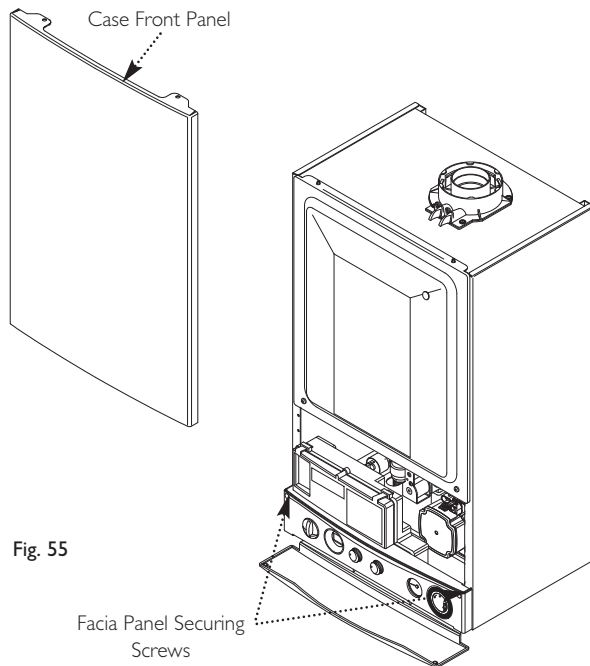

Fig. 55
3. Slacken the screws securing the fascia panel. Lift the outercase panel so that its securing tabs are clear of the fascia. Remove the panel, allowing the fascia to hinge down (Fig. 55).